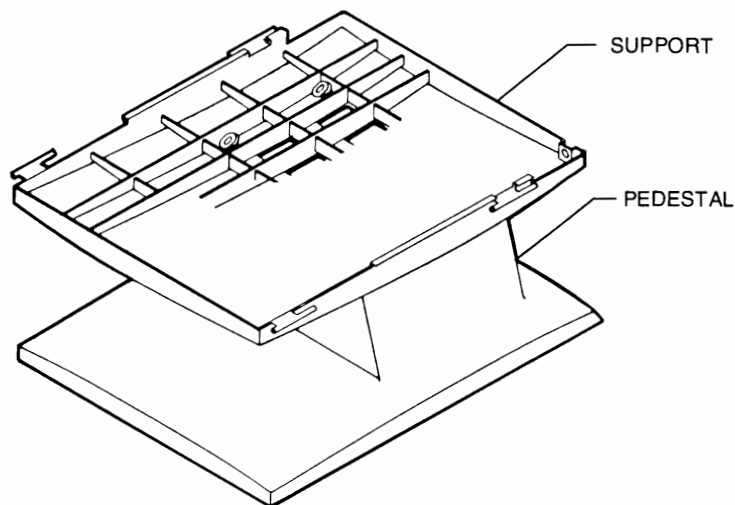

Figure 7-4. Support and Pedestal
1. Remove the four screws and washers securing support to pedestal (figure 7-4).